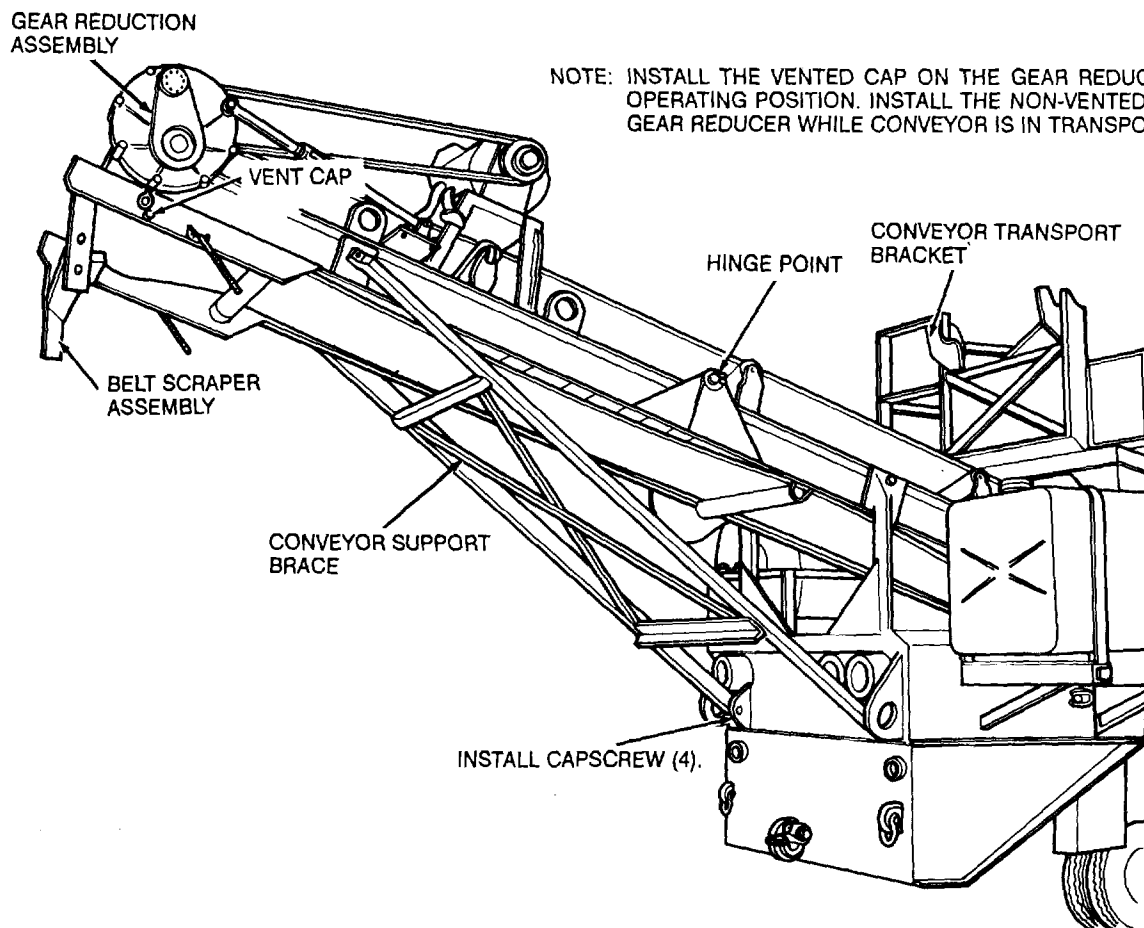

Figure 12. Discharge conveyor, operating position.
- h. Use a suitable lifting device and lift the discharge conveyor into operating position (fig. 12). Install the discharge conveyor support frame and head belt scraper (figs. 12 and 13). Adjust main conveyor drive belt (para 79).